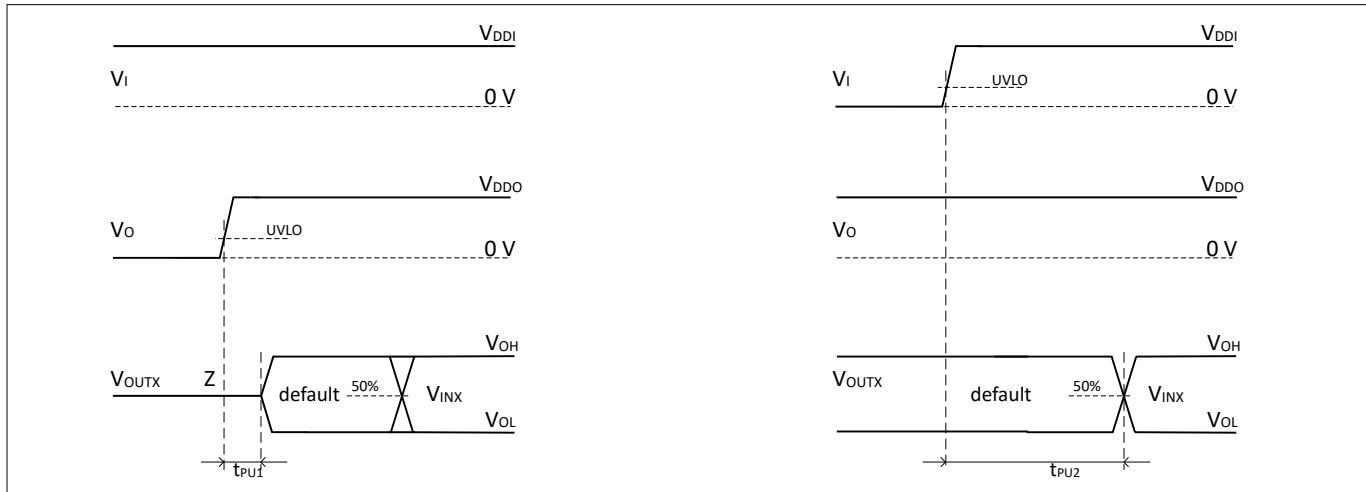

Figure 10 Power-up delay time
Figure 10 illustrates the time taken for the output to follow the input when the power supplies of the input and output sides of the digital isolator have different start-up timings. The power-up time is $t_{PU} = \max \{t_{PU1}, t_{PU2}\}$.
Communication based on Coreless Transformer (CT) is used for signal transfer between input and output channels. If a constant DC level within the operating range is applied at the input, a proven high resolution pulse repetition scheme ensure functionality, enabling the output to follow the constant DC input. It also enables recovery from communication fails and safe system shutdown. In case of a power loss at the input channel, the pulse repetition scheme will be disabled and a watch-dog timer at the output triggers approximately after t_{DO} time period and drives the channel output to the default state. In case of multiple channels on the output side, the first watch-dog timer detecting the power loss at the input will drive all output channels on that side to default value. Once the power supply on the input channels is above the threshold value ($V_{DDX(UVLOon)}$), the communication is restored and the output will follow the input as shown in Figure 10.